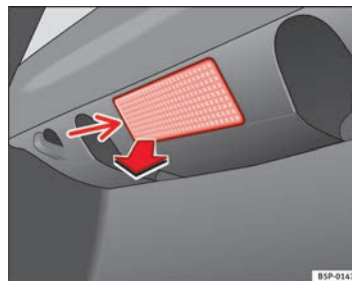

Fig. 195 Luggage compartment light
- Extract the bulb by pressing on its inside edge -arrow- using the flat side of a screwdriver ⇒ Fig. 195.